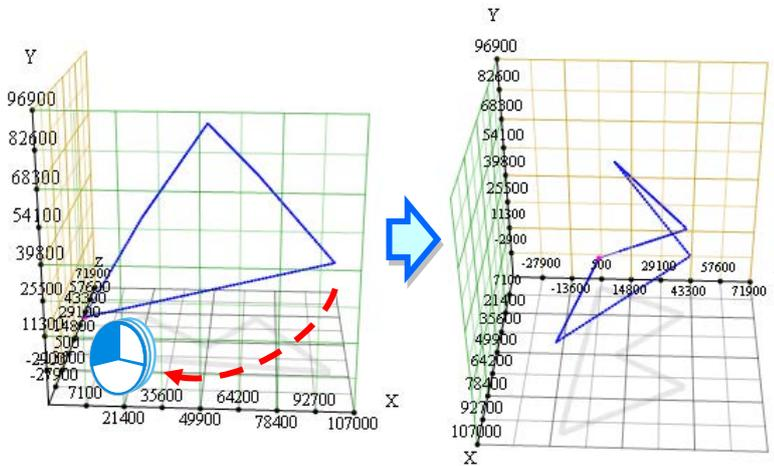

Figure 13-6 Turning the chart in the 3D Chart window
- ② In the **View Mode** section, the users can select the 3D option button, the XY Plane option button, the ZX Plane option button, or the YZ option button. Besides, the users can select the **Path Points** checkbox, the **Shadow** checkbox, and the **Grids** checkbox. If the **Auto Fit** checkbox is selected, the coordinate ranges on the chart will be modified according to the size of the path drawn. **Clear** is used to clear the path which has been drawn.
- ③ The path of the three axes of the motion controller is shown here. The users can turn the chart in the **3D Chart** window by dragging the chart, as shown in figure 13-6. Besides, the users can adjust the coordinate ranges on the chart by using the mouse wheel.